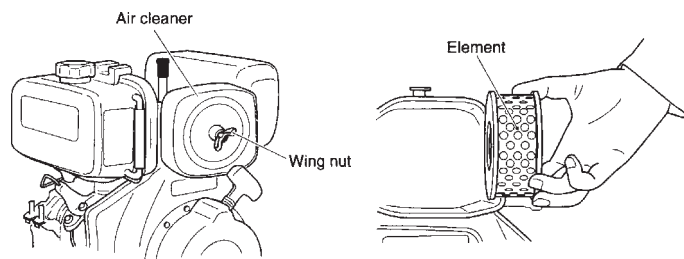

Figure 19. Engine Air Filter and Element
2. To clean or replace air filter loosen the wing nut on the air filter housing (Figure 19) remove the cover and take out air filter cartridge. If only cleaning of the air filter is desired blow through the air filter cartridge from the inside, moving a jet of dry compressed air up and down until all dust is removed.